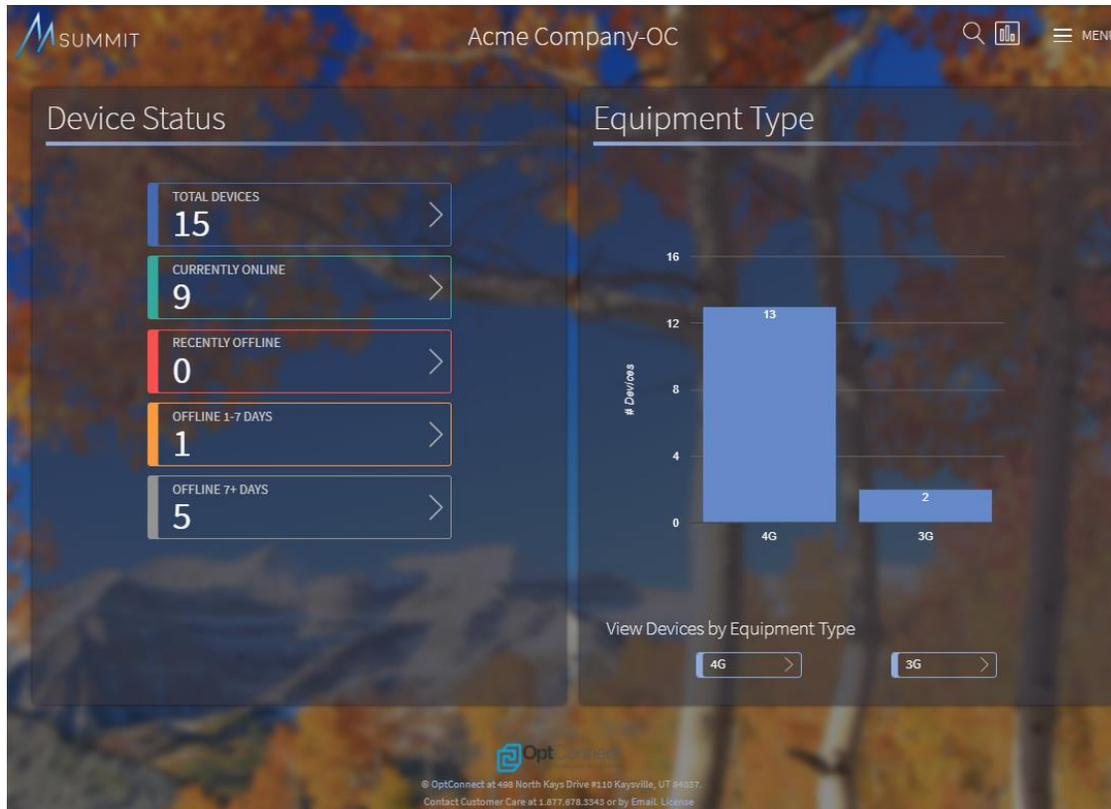

Figure 8
- Navigate to <https://summit.optconnect.com/login> and login to the portal. The landing page should look similar to *Figure 8*. All of the OptConnect cellular devices associated with this account will be qualified by the categories shown.